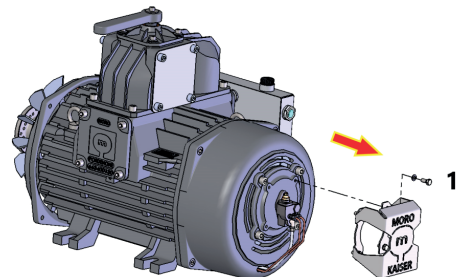

Fig. H.15 - Phase 0020
- Remove 4 M8x20 screws (**pos.1 Fig. H.15**) (spanner ch13).